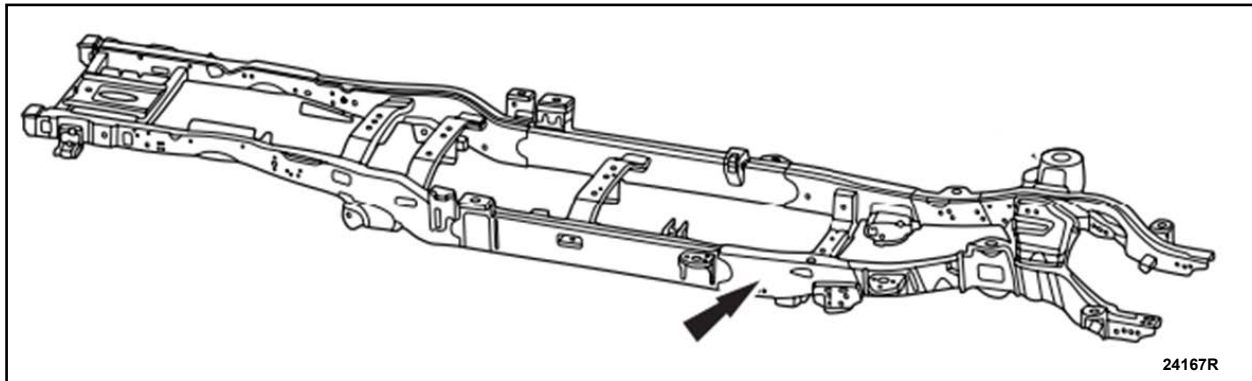

FIGURE 7
1. Locate the frame part number label. The frame part number label is located on the right-side outboard surface of the frame rail behind the transmission crossmember. See Figures 7 and 8.